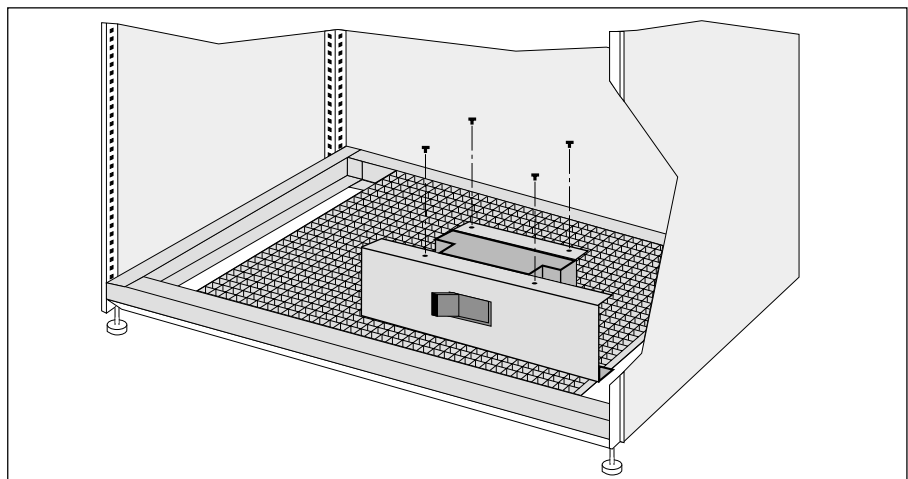

Fig. 4
- ▶ position the battery circuit breaker support and secure by means of 4 screws as shown in the Fig. 4;